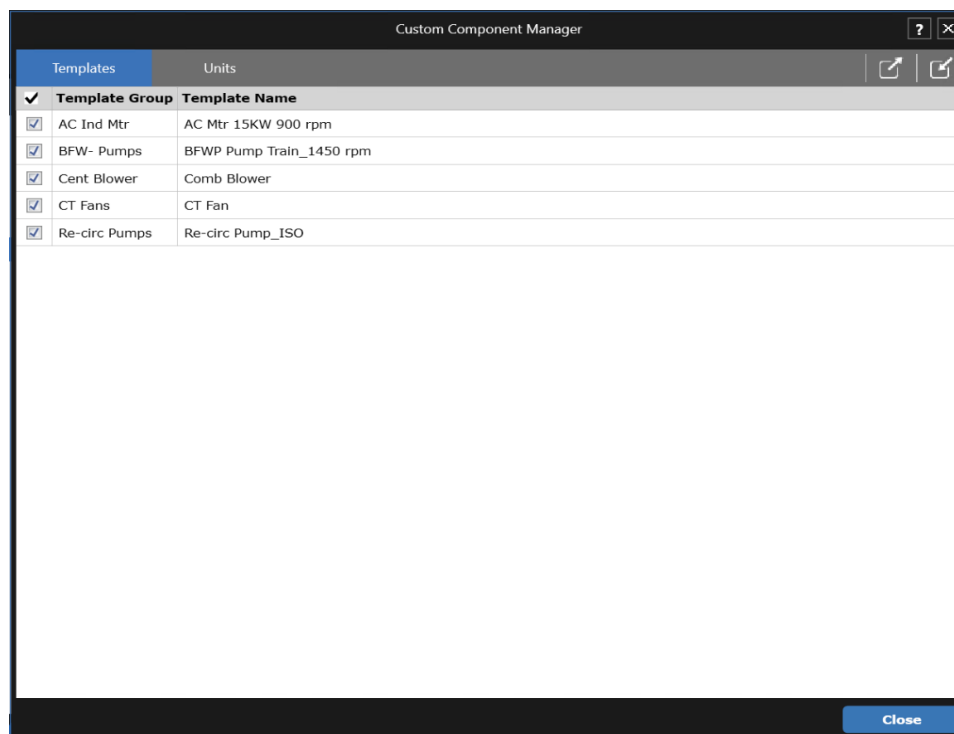

Figure 12: Import/Export Template from Custom Component Manager
- Launch the Tools > Custom Components dialog and select the Templates tab, which lists all user defined templates within the database (Figure 12)